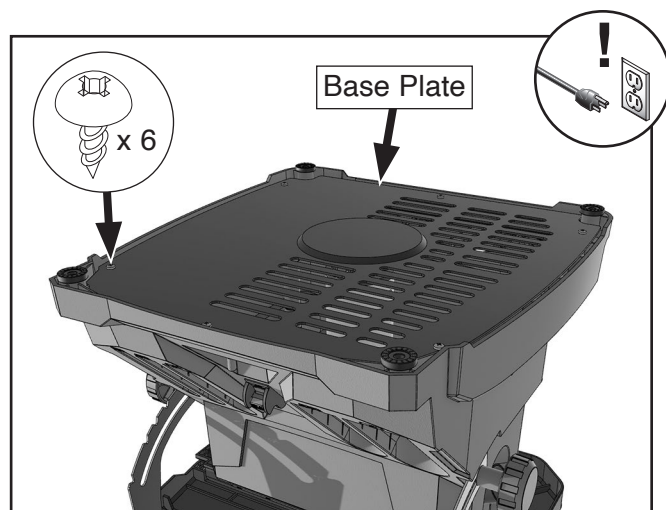

Figure 42. Location of base plate and screws.
2. Remove all sanding attachments, then place sander upside down on blocks (see **Figure 42**), ensuring proper clearance of spindle.
3. Remove (6) screws that secure base plate to remove base plate (see **Figure 42**).